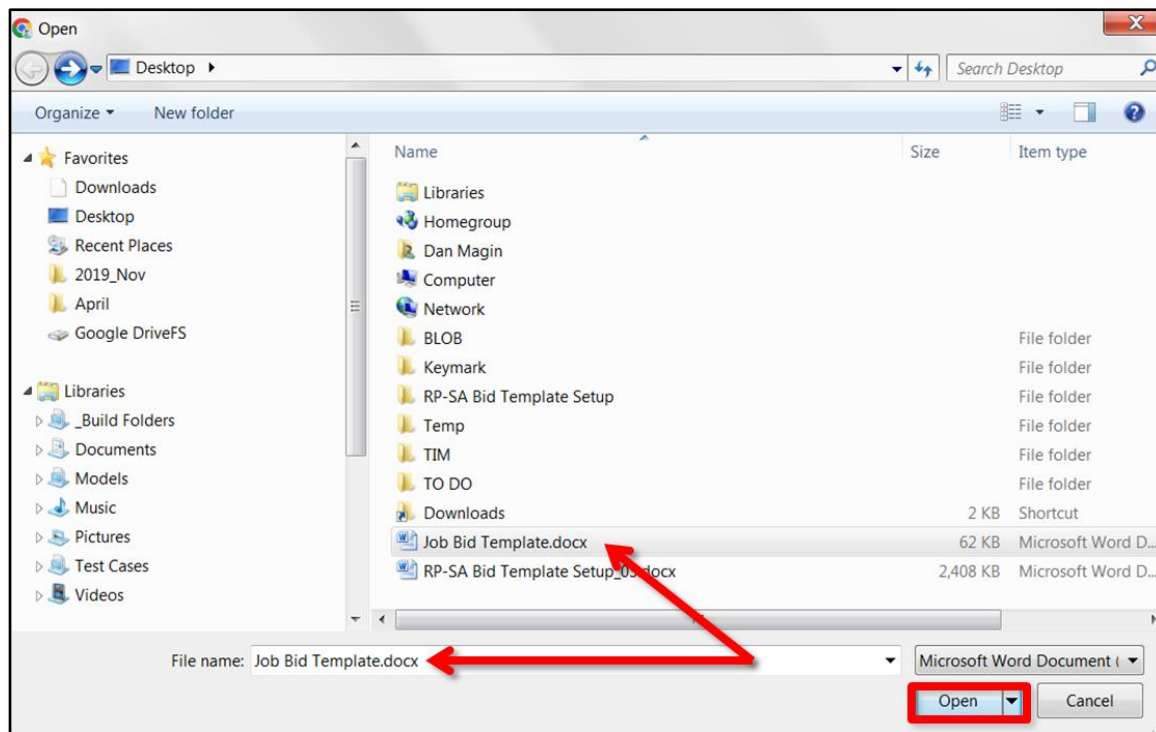

Figure 42: Select your template file from its stored location and click on the **Open** button.
7. Once you click on the **Choose File** button, the Windows (or Mac) *Open* dialog box will appear. (See **Figure 42** below.) Navigate to the location where you have saved your template file and select the file by clicking on it. Once your file has been selected, click on the **Open** button to close this dialog box and return to the Roofing Passport *Add Report* dialog box.